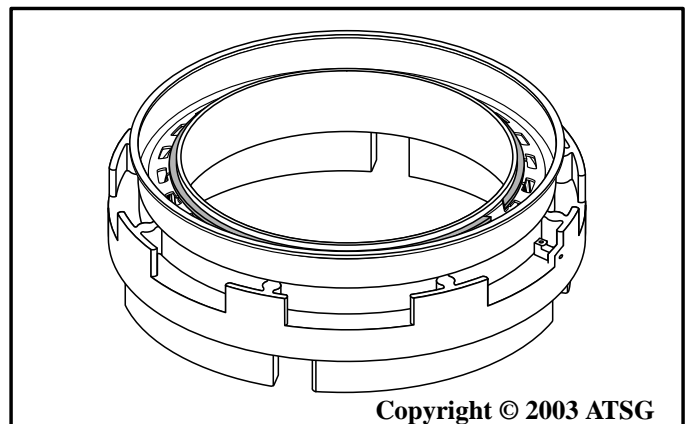

Figure 139
12. Set completed intermediate/overdrive clutch cylinder aside for the final assembly process. (See Figure 139).